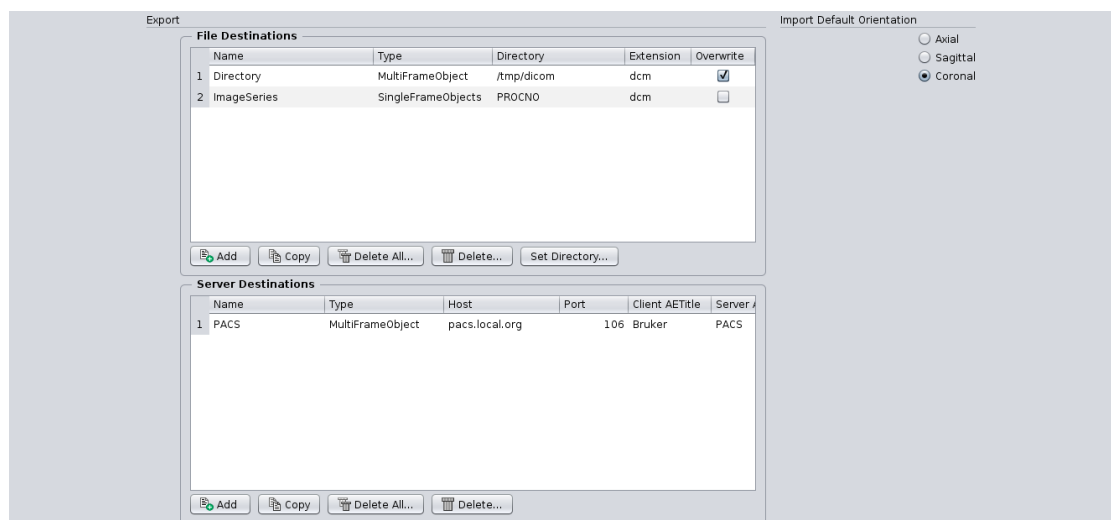

Figure 1.401: DICOM Import/Export Configuration
2. The dialog in Figure 1.401 [443] opens.